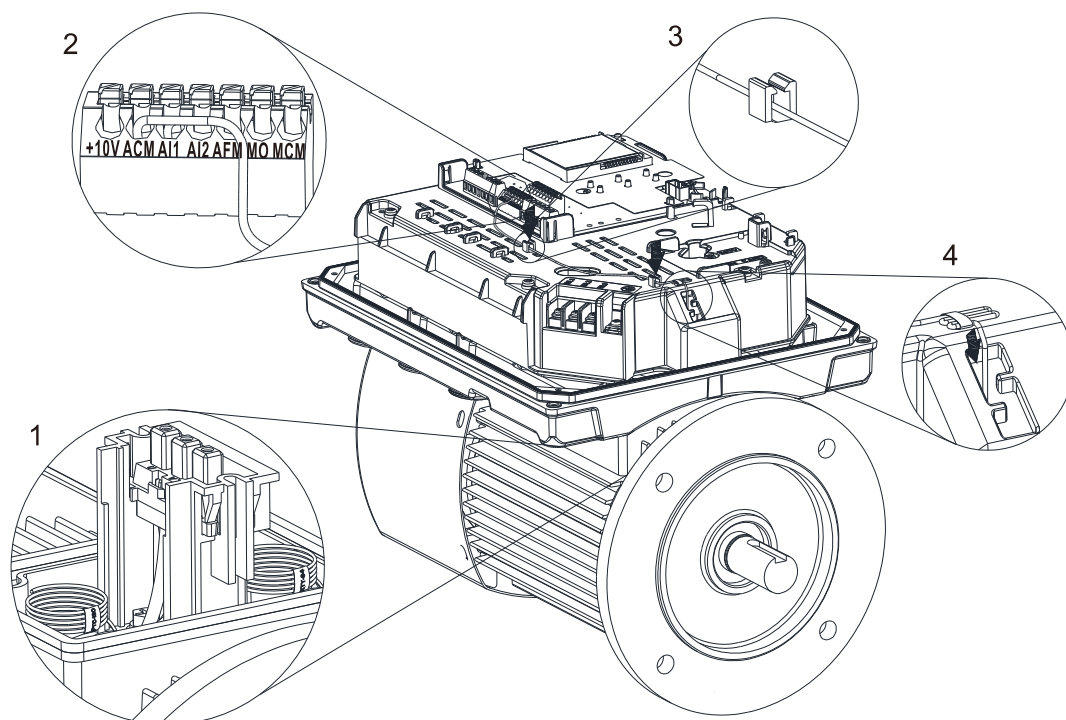

Figure 4-5
4. Put the surplus wire segment of the thermal wire into the hole as the direction arrow shown in the Figure 4-5.